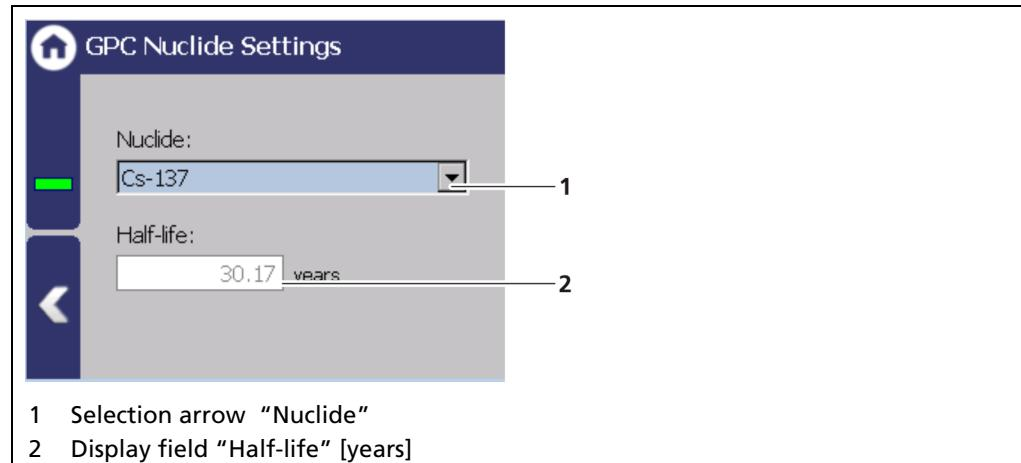

Fig. 97 Submenu "GPC settings"
Under "GPC Settings" the isotope of the source for gas density measurement can be selected (Fig. 97, item 1). The half-life time of the isotope is shown in the display field (Fig. 97, item 2).